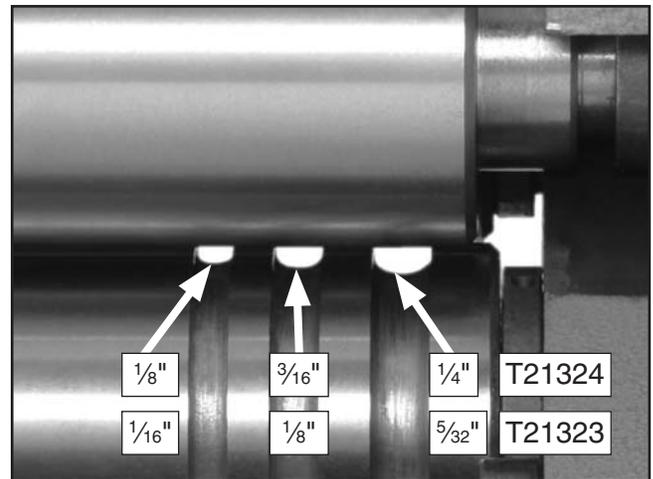

Figure 29. Wire grooves.
1. Place your workpiece into the smallest possible groove on the wheel. The three sizes on the T21324 are $\frac{1}{8}$ ", $\frac{3}{16}$ ", and $\frac{1}{4}$ " and on the T21323 are $\frac{1}{16}$ ", $\frac{1}{8}$ ", and $\frac{5}{32}$ "(**Figure 29**).